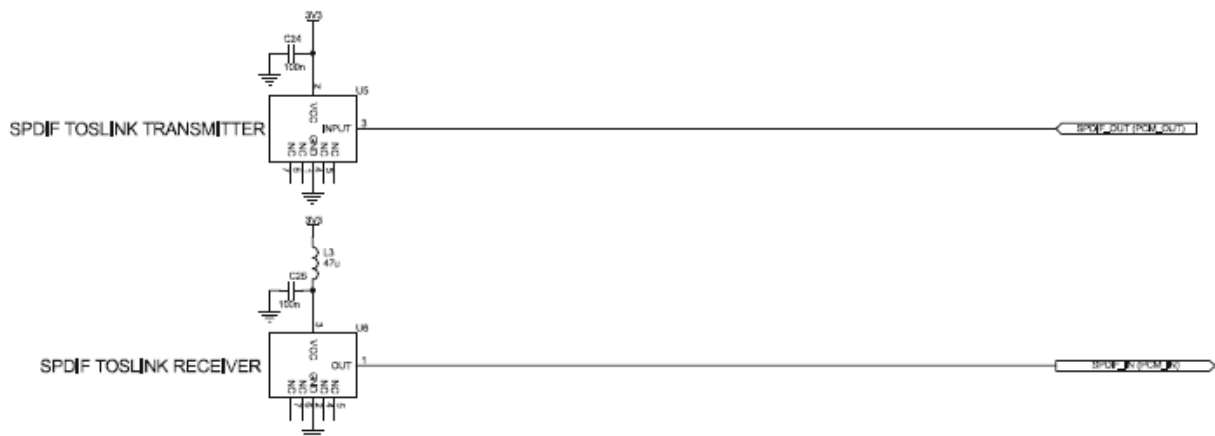

Figure 12: Example Circuit for SPDIF Interface (Optical)
- An optical link that uses Toslink optical components, see Figure 12.